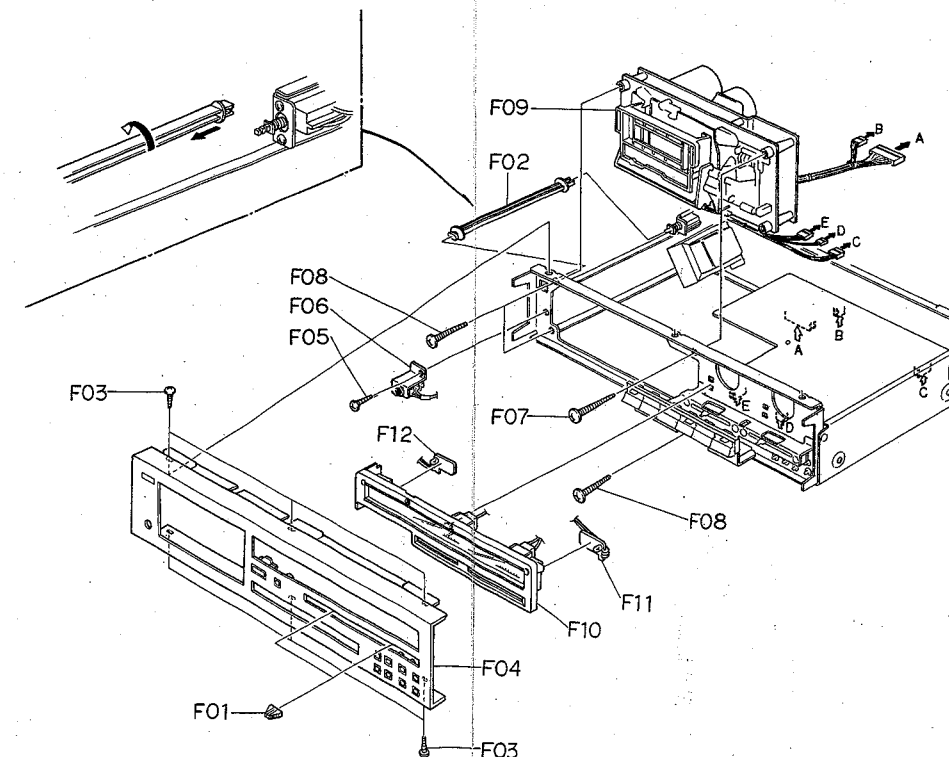

Fig. 3.2
Refer to Fig. 3.2.
- (1) Refer to Fig. 3.2. Remove Front Panel Ass'y referring to item 3.4.
- (2) Remove 5 connectors and the wires connected by wrapping from the F05 (Main P.C.B. Ass'y).
- (3) Remove F01, F02, F03 and F04, then disassemble F05 (Main P.C.B. Ass'y).
- (1) Refer to Fig. 3.2. Remove Meter Ass'y referring to item 3.7.
- (2) Remove F06, then disassemble F07 (Control Switch Holder Ass'y).
- (2) Remove F08, then disassemble F09 (Switch P.C.B. Ass'y).
- (1) Refer to Fig. 3.2. Remove Mechanism Ass'y referring to item 3.6.
- (2) Press the Eject Button to open the Cassette Case Ass'y.
- (3) Remove F01, then disassemble the piston of the Pneumatic Damper Ass'y.
- (4) Remove F02 and F03 (Cassette Case Holder L Ass'y), then disassemble F04 (Cassette Case Ass'y).
- (5) Remove F05, then disassemble F06 (Cover Plate Ass'y).
- (2) Remove F07, then disassemble F08 (Tape Counter Ass'y).
- (2) Remove F01 and F02, then disassemble F03 (Flywheel Holder Ass'y) and F08 (Capstan Belt).
- (3) Remove F04, then disassemble F05 (Capstan Motor Ass'y).
- (4) Remove F06, then disassemble F07 (Control P.C.B. Ass'y).
- (5) Remove F09 (Supply Flywheel Ass'y), then disassemble F10 (Take-up Flywheel Ass'y).
- (6) After removing both Flywheel Assemblies, disassemble F11 (Thrust Washer 3 mm), F12 (Thrust Washer 2.6 mm), F13 (Flange Thrust Caps) and F14 (Thrust Springs).